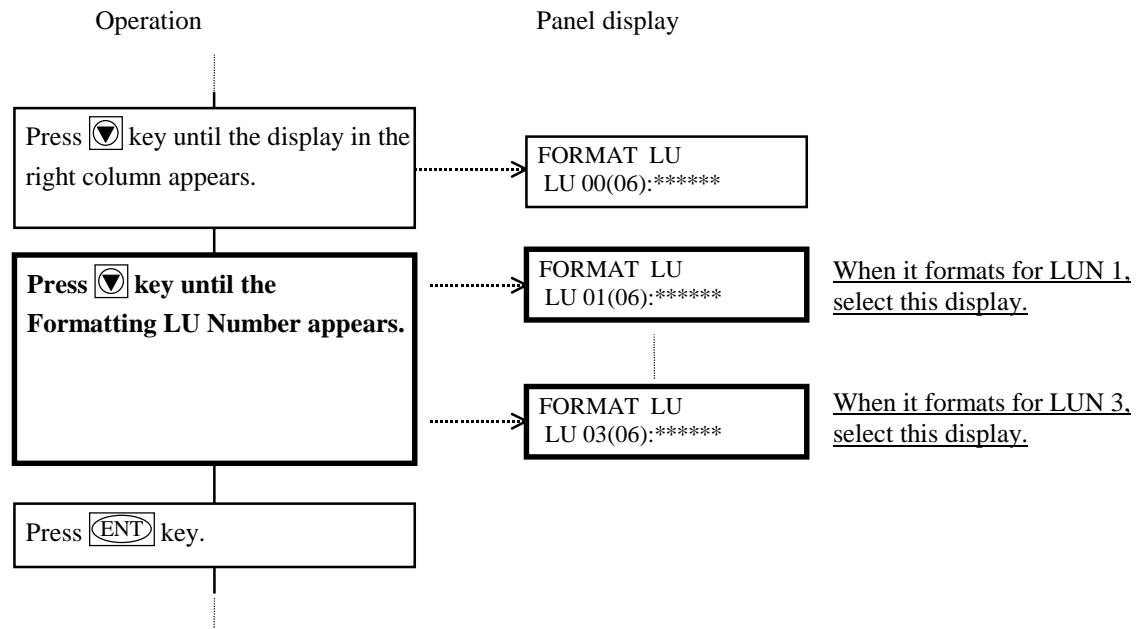

Figure 6.2.7-④ Selecting LUN 1-3 Operation
- When formatting completed for all LUN, go to ⑤.
(i) The difference in the selecting operation for LUN 1, 2, 3 is shown in Figure 6.2.7-④. (Operations shown in bold frames are added)